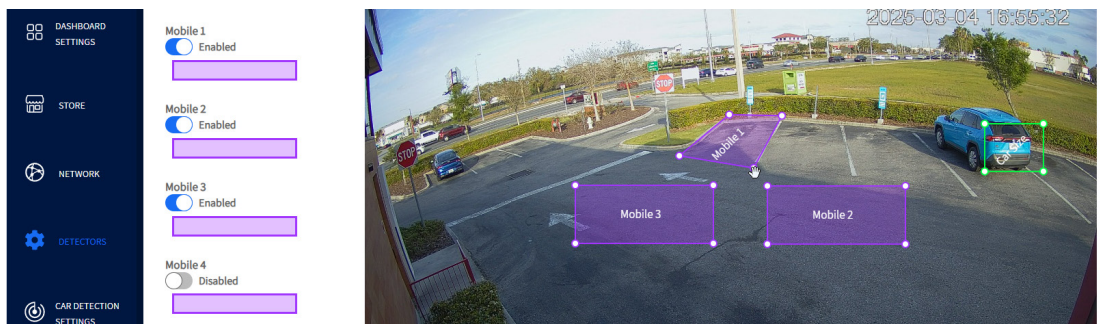

Fig. 24
- The polygon has four adjustable vertices, one on each corner. After moving the box into a parking space, grab any corner vertex and adjust the polygon to match the parking space. See Mobile 1 in Fig. 24.